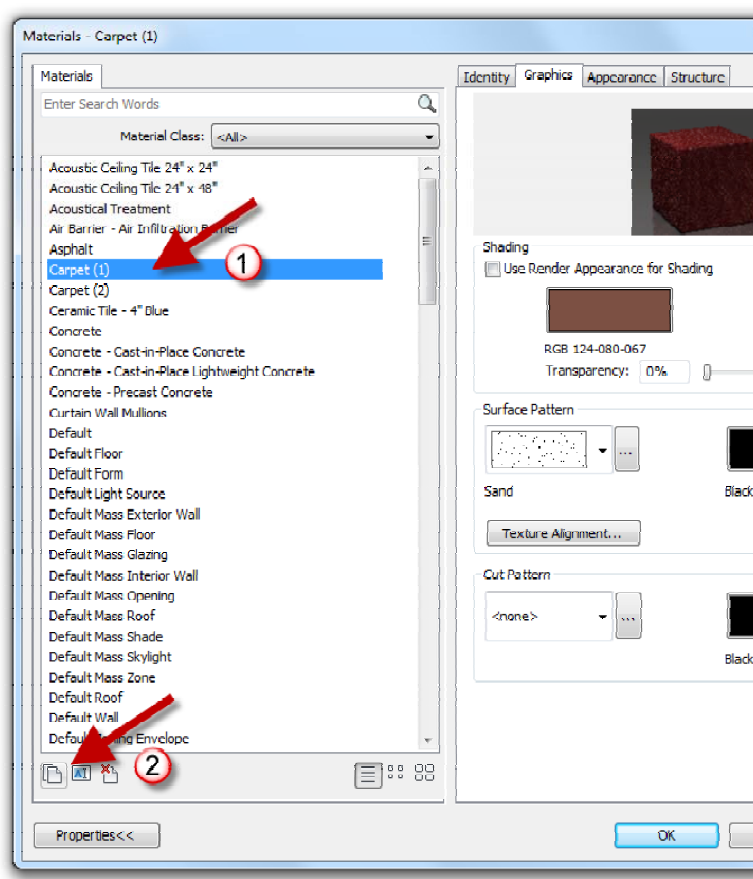

FIGURE 4-3.2 Duplicating a material
5. With *Carpet (1)* selected, click the **Duplicate** button in the lower left (Fig.4-3.2).